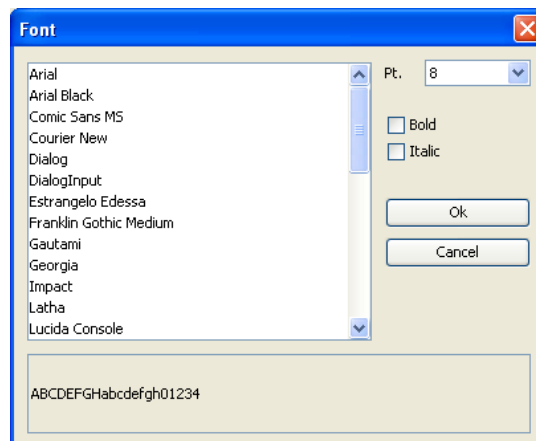

Figure 4.4: The Select Font Dialog Box
- the button with the three dots, which in turn opens a second dialog box for choosing the appropriate font and size (Figure 4.4).